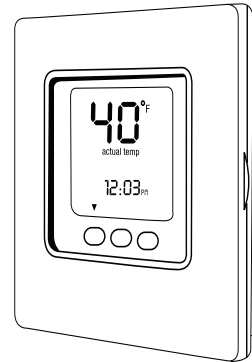

Fig. 16 – Lowest Temperature Setting
- Set your room thermostat to the lowest temperature setting and set the “MODE” to “OFF” (see Fig. 16).